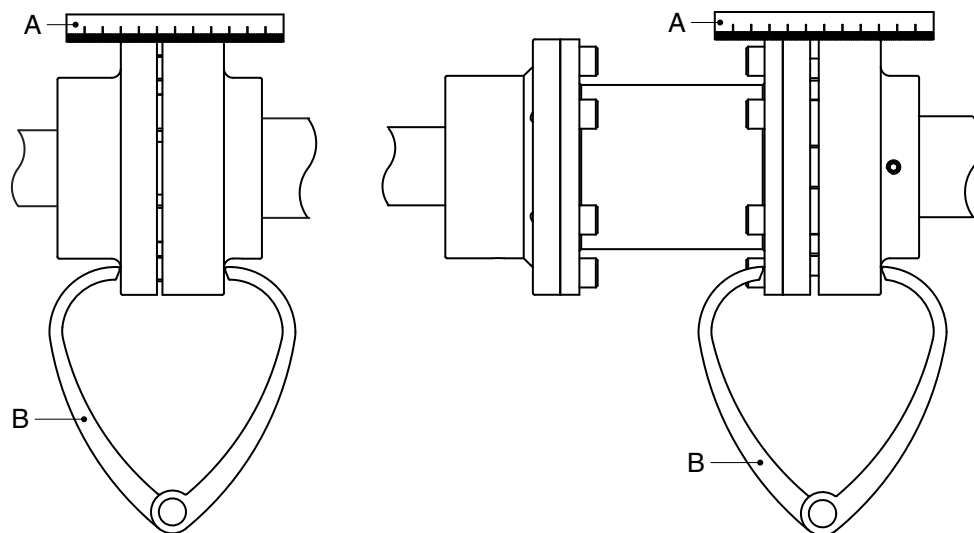

Figure 4: Aligning the coupling by means of a ruler and a pair of outside calipers.
- 1 Place a ruler (A) on the coupling. Place or remove as many copper shims as is necessary to bring the electric motor to the correct height so that the straight edge touches both coupling halves over the entire length, see figure 4.
- 3 Check the alignment once again using a pair of external calipers (B) at 2 diametrical opposite points on the sides of the coupling halves, see figure 4.